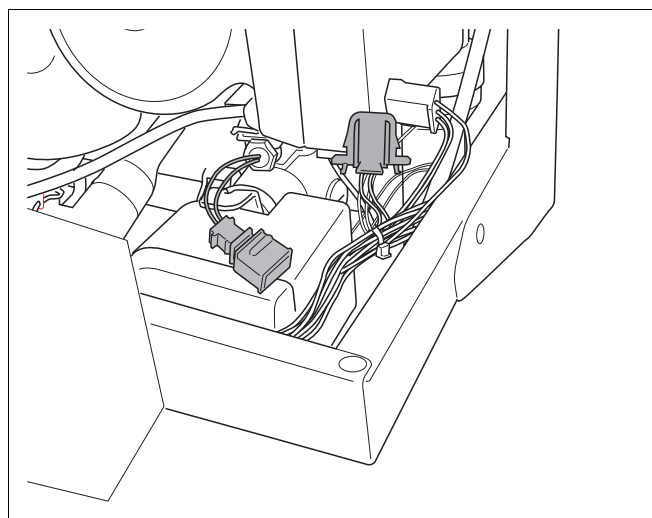

fig. 76 Disconnect return sensor
- Disconnect the return sensor (see fig. 76).